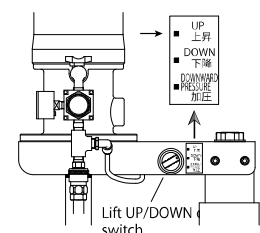

Fig. 7
- 5) Switch the control of the lift up/down switch to "UP". The lift moves upwards. (Fig. 7)